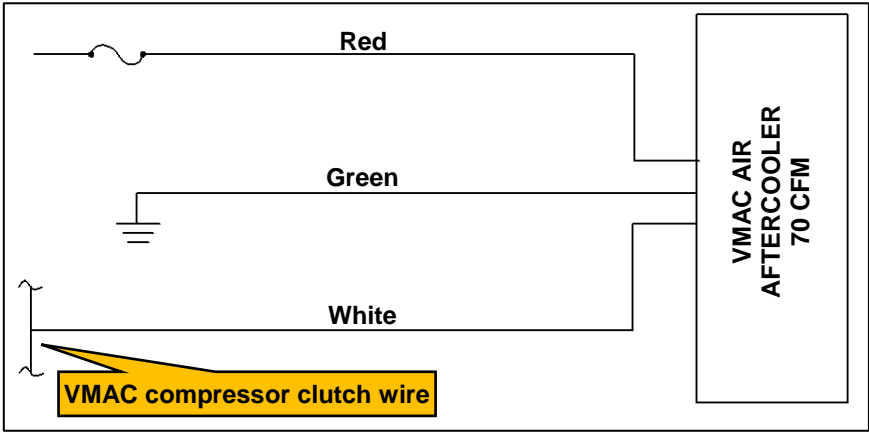

Figure 5 – Aftercooler wiring to VMAC underhood systems
- Solder and seal the white wire from the aftercooler to the white clutch wire coming from the VMAC UNDERHOOD 30 or UNDERHOOD 70 compressor (Figure 5).